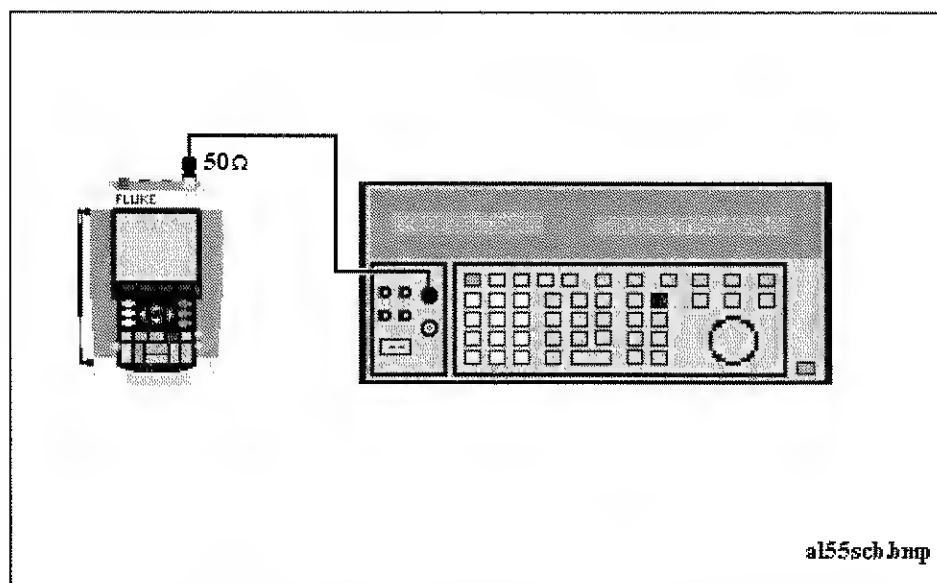

Figure 4-7. 5500A Scope Output to Test Tool Input B
1. Connect the test tool to the 5500A as shown in Figure 4-7.
1. Connect the test tool to the 5500A as for the previous test (see Figure 4-7).